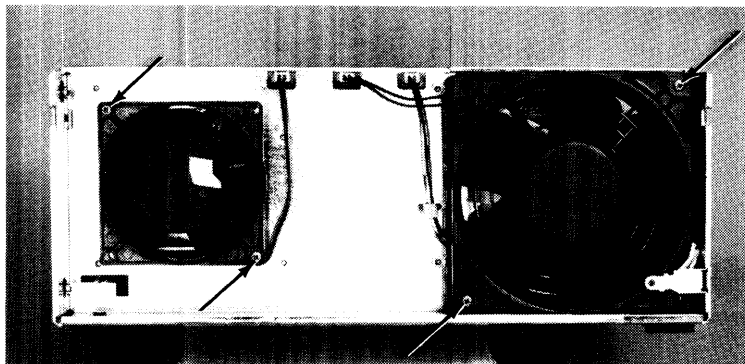

Figure 2-6. Fan Mounting Screws
2. Using a #1 Pozidriv® screwdriver, remove one of mounting screws from the fan to be replaced. Refer to Figure 2-6.